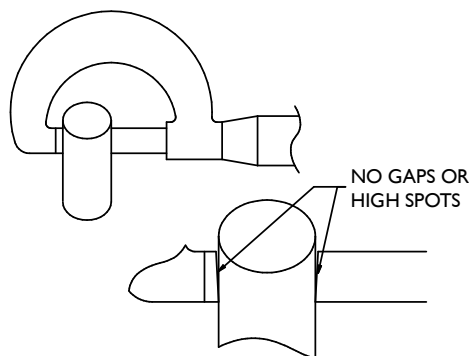

FIGURE 2a
- Parallelism, see Figure 2a. Secure a smooth ground diameter approx. 1" long (e.g. gage pin) lightly between the anvil and spindle near one end of the rod. Rotate the part 180° minimum. If the part pivot on the high spots or has gaps as shown, the micrometer must be repaired or replaced.